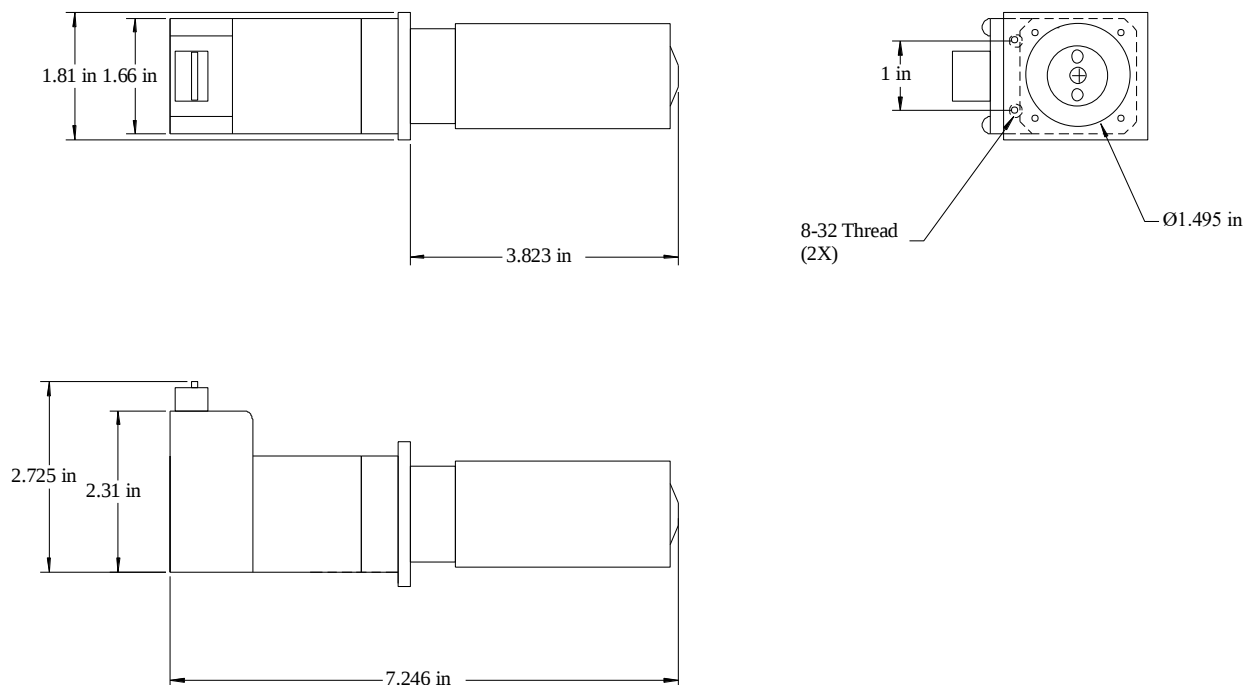

Figure 3: Dimensions for milliGAT LF pump with integrated controller (MG-1M17) no encoder
The mounting points of the pumps and controllers are given in Figure 2 and Figure 3 together with the external dimensions of each module. Because the high flow pump (HF) makes use of a dual stage gearbox, its motor-gearbox enclosure is 1" (25.4 mm) longer than the low flow pump. An unenclosed motor-gearbox that has an external encoder, will be $\frac{5}{8}$ " (16 mm) longer than one that doesn't have an encoder. This applies also for MDrive integrated motor and controller.